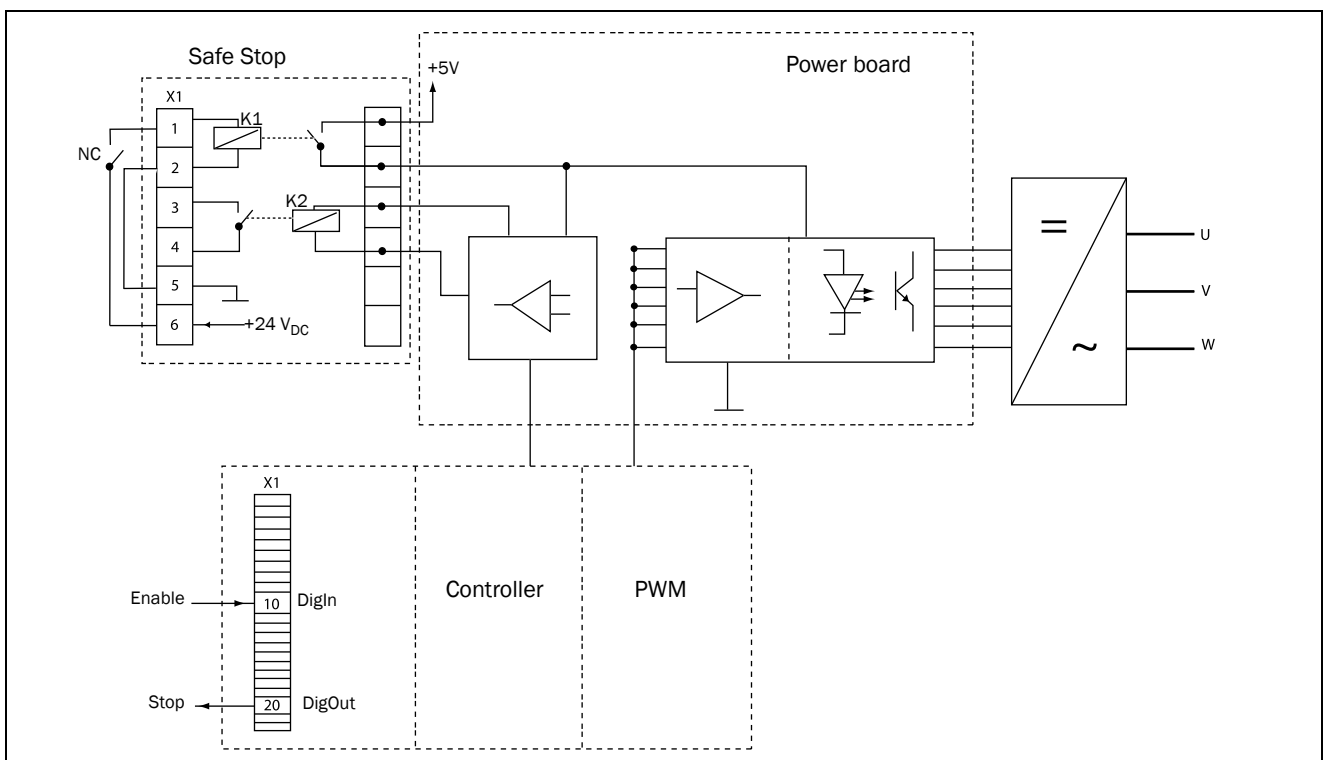

Fig. 132 Safe Stop connection
- "Inhibit" input, terminals 1 (DC+) and 2 (DC-) on the Safe Stop option board should be made active by connecting 24 VDC to secure the supply voltage for the driver circuits of the power conductors via safety relay K1. See also Fig. 132.
- High signal on the digital input, e.g. terminal 10 in Fig. 132, which is set to "Enable". For setting the digital input please refer to section 11.5.2, page 141.
terminal 20 in the example Fig. 132, please refer to section 11.5.4, page 147 [540].